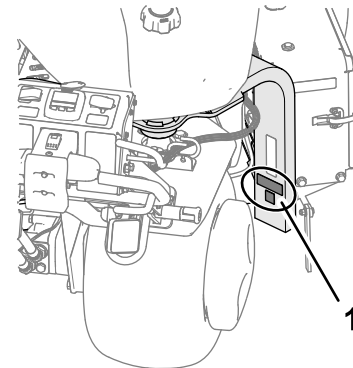

Figure 19
2. Clean the fork leg with alcohol as shown in Figure 19 and allow the surface to dry.
3. Apply the CE decal and the production year decal to the fork leg (Figure 19).